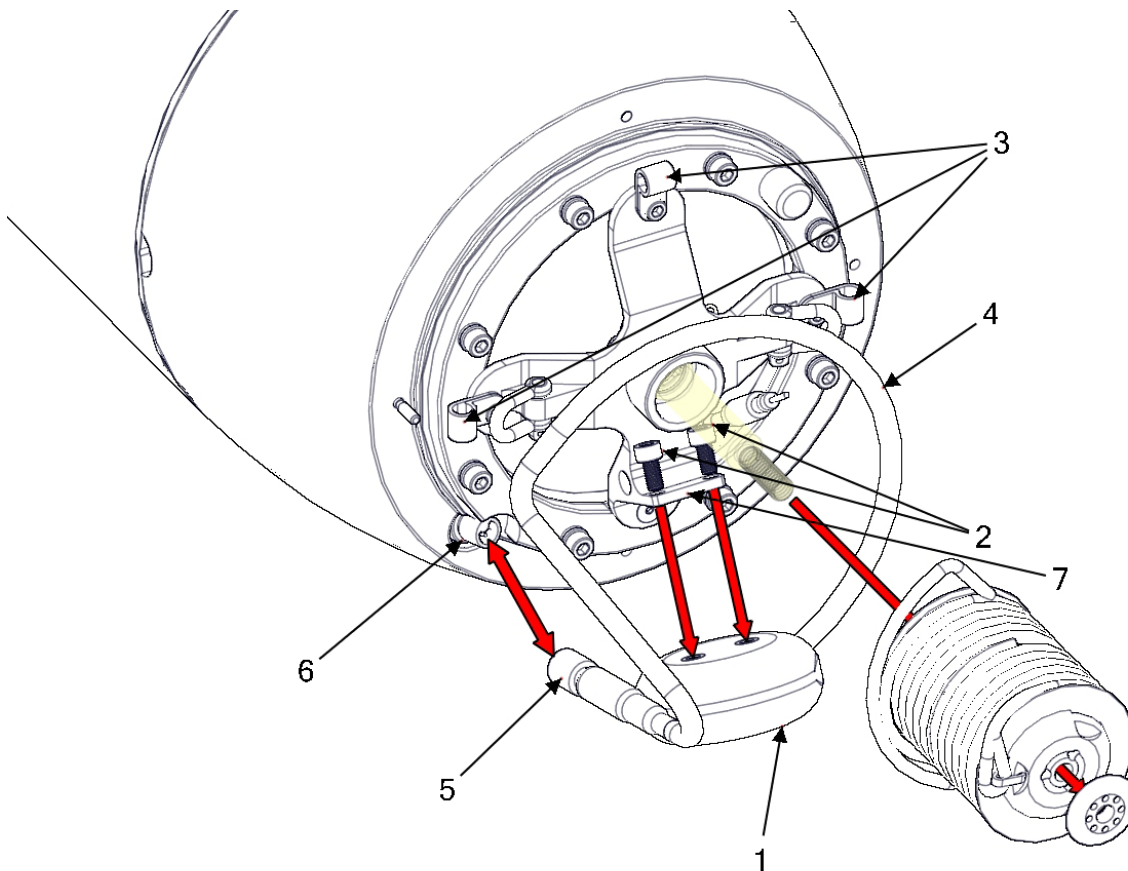

Figure 2-20 Altimeter transducer assembly.
1. Remove the two screws (Figure 2-20, Item 2) from the altimeter transducer (Figure 2-20, Item 1).
2. Unscrew the plastic clips (Figure 2-20, item 3) that secure the altimeter cable pigtail (Figure 2-20, item 4) to the bulkhead.
3. Disconnect the cable connector (Figure 2-20, item 5) located at the end of the altimeter cable from the bulkhead connector (Figure 2-20, item 6).
1. Screw the cable connector (Figure 2-20, item 5) located at the end of the altimeter cable into the bulkhead connector (Figure 2-20, item 6).
2. Secure the altimeter cable pigtail (Figure 2-20, item 4) to the bulkhead by inserting the pigtail into the plastic clips (Figure 2-20, item 3) on the bulkhead and screwing the clips shut.
3. Install the 2 screws (Figure 2-20, item 2) through the recovery spool base (Figure 2-20, item 7) and into the altimeter transducer (Figure 2-20, item 1).